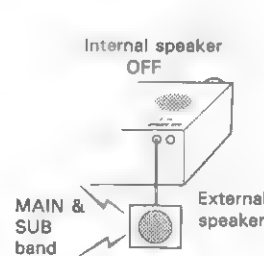

Fig. 1
- When connect a speaker to MAIN/SUB jack, audio signals from both bands will be heard only from the external speaker. (Fig. 1)